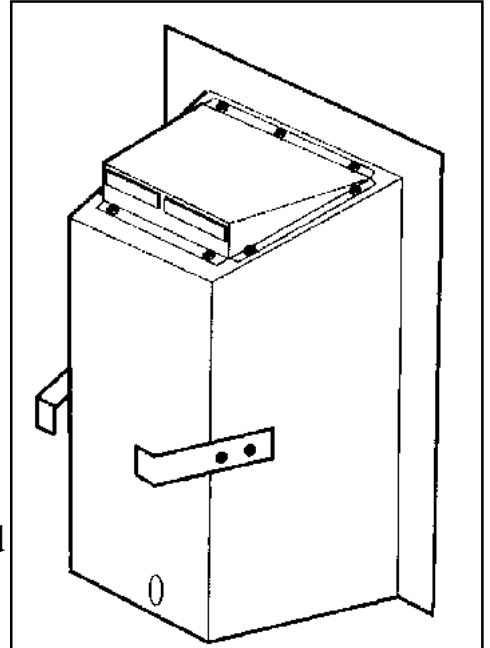

Figure 12. Fireback spacers.
5. The appliance is supplied with two fireback spacers. *Do not fit the fireback spacers if the fire is to be installed into a precast or clay flue block system as in section 3.2.2.* These should extend backwards to ensure sufficient clearance from the back of the fireplace. Remove the label and retaining screws from the rear sides of the convection box. Position the fireback spacer as shown in figure 12. Secure the fireback spacers using the screws removed previously and the two supplied with the fire.